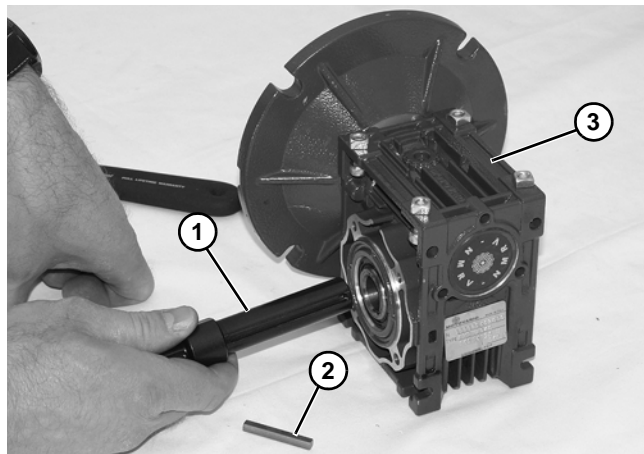

Figure 23
4. Remove driveshaft (**Figure 23, item 1**) and key (**Figure 23, item 2**).
5. Replace gear reducer (**Figure 23, item 3**).
7. Replace the original shaft components into new gear reducer (**Figure 23**).